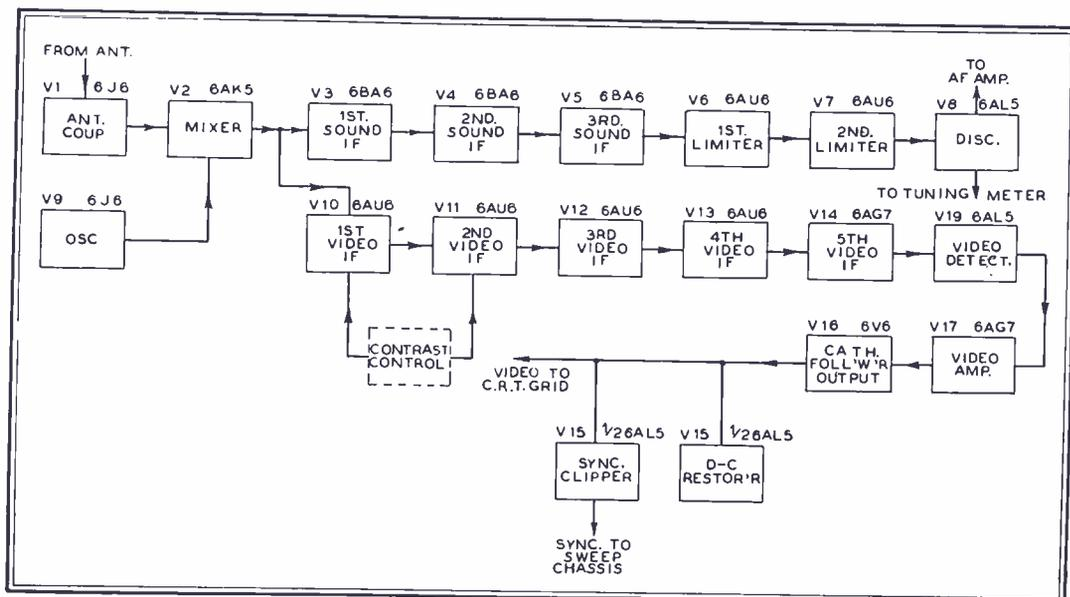

FIG. 8. THE RF TUNING CHASSIS CARRIES THE CIRCUITS FOR THE VIDEO AND SOUND CHANNELS
**RF Chassis** ★ The RF tuning assembly, Fig. 8, is the complete input system. It consists of three separate variable inductors comprising the Inputuner which covers